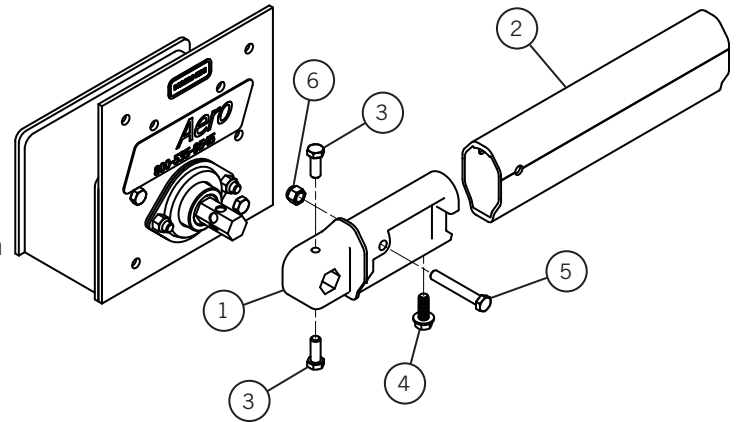

Figure 9
- 1) See **Figure 9**. Place a end fitting (1) on the driver's side tension spring assembly shaft so it is facing the rear.
- 2) Insert 3/8-16 x 1 hex bolt (3) into the end fitting (1) and tighten against the shaft.
- 3) Place swing arm lower aluminum large (2) onto casting and secure from underneath with 3/8-16 x 1 HWH Type F (4).
- 4) Insert 3/8-16 x 2 1/2 hex bolt (5) through extrusion and arm and secure with 3/8-16 nylon hex nut (6).